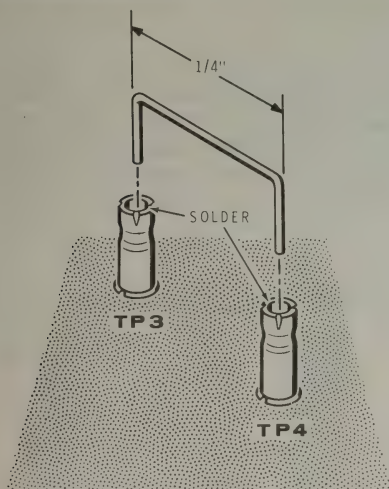

Figure 2-13
- () Refer to Figure 2-13 and cut a capacitor lead (laid aside earlier) to 1/2". Bend the ends down to form a U-shaped connector. Place the ends in TP3 and TP4. Use a minimum amount of solder (this connector will be removed later) and solder the connector to TP 3 and TP 4.